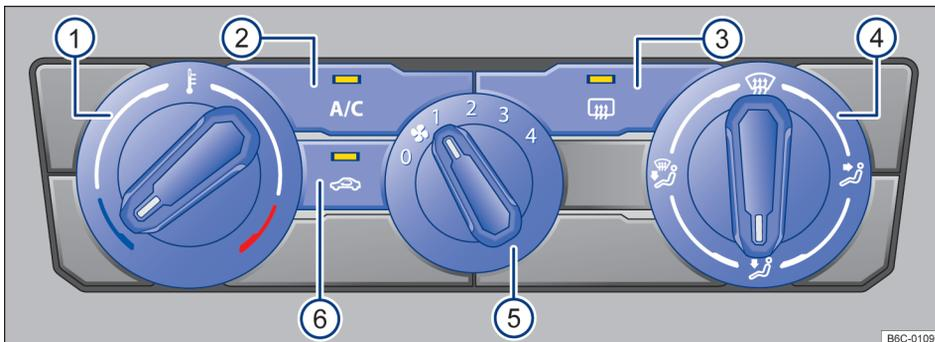

Fig. 84 Air conditioning controls.
- *Air conditioner*: rotate the blower regulator to level 0 → Fig. 84 (5).
- *Climatronic*: slide your finger to the left under the function surface → Fig. 84 (7), then press the leftmost  button.
- *Air Conditioner*: press the button  → Fig. 84 (2) to turn the cooling operation on and off.
- *Air-conditioning*: rotate the left rotary regulator → Fig. 84 (1).
- *Air-conditioning*: rotate the blower regulator → Fig. 84 (5).
- *Air Conditioner*: press the  button → Fig. 84 (6).
- *Air-conditioning*: rotate the right regulator → Fig. 84 (4) to the desired position.
- *Air conditioning*: rotate the right rotary regulator to  → Fig. 84 (4).
- *Air Conditioner*: press the button  → Fig. 84 .